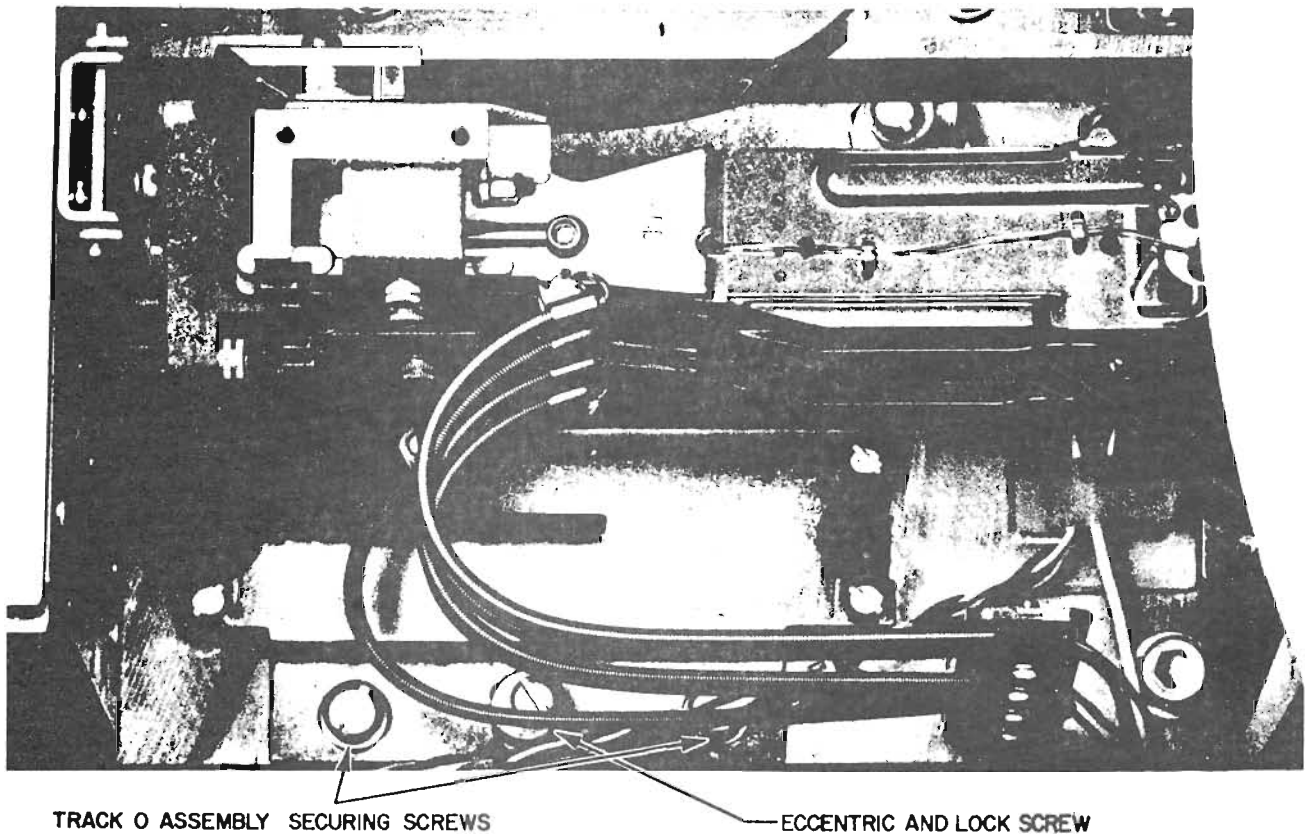

FIGURE 4-6 TRACK 0 SENSOR ADJUSTMENT
10. Loosen track zero assembly screws (Figure 4-6) slightly (approx. 1/4 turn).
12. Note track address on exerciser switches where the burst pattern is obtained; then adjust track zero eccentric accordingly (Ref: Figure 4-6):